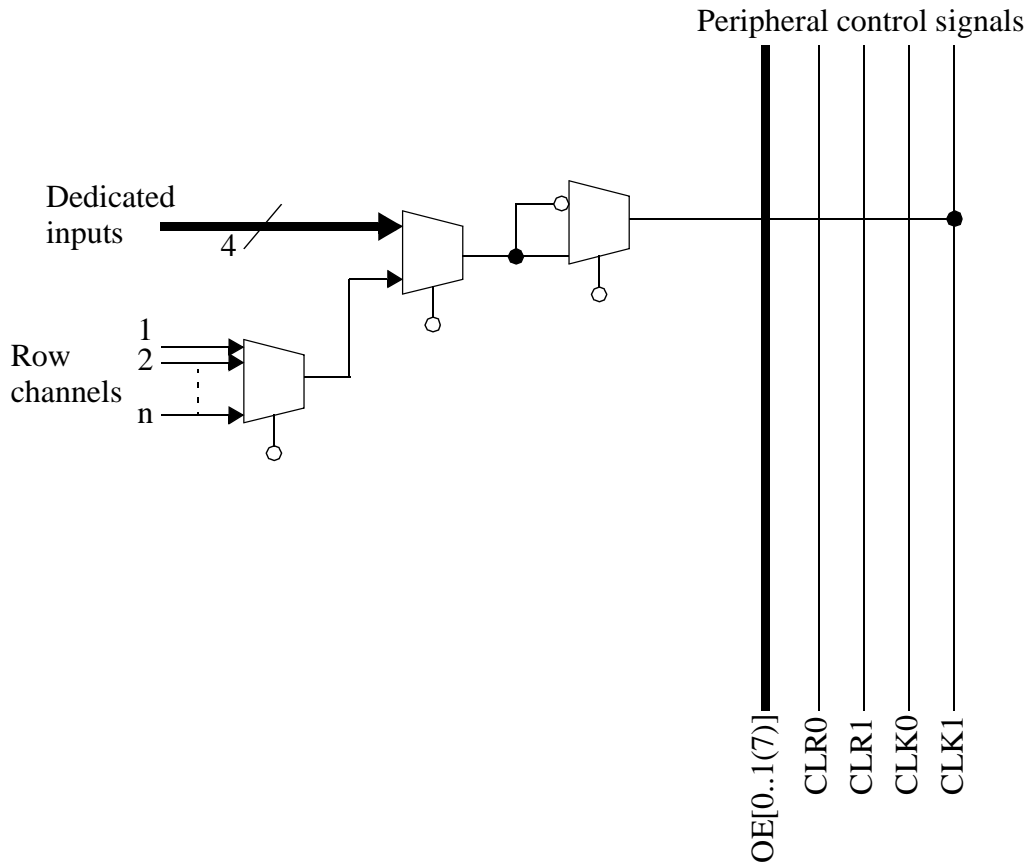

Figure 19 : Flex 8000 peripheral control bus
- Signals for the peripheral bus can be generated by any of the 4 dedicated input lines, or signals on the row interconnect channels (the number of row channels corresponds to the number of columns in the device (i.e. 13, 21 or 27 depending on the device)). See Figure 19